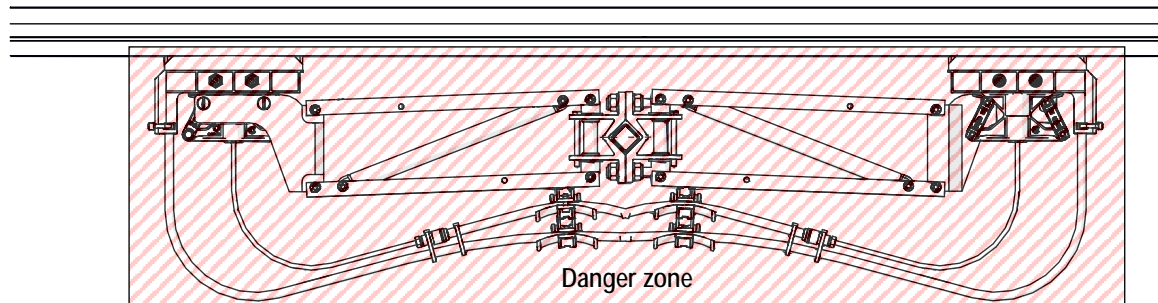

Fig. 1: Danger zone at collector sketch
- Pay attention to spring force during all work on the collector. Do not reach between the profile and the collector (see Fig. 1).